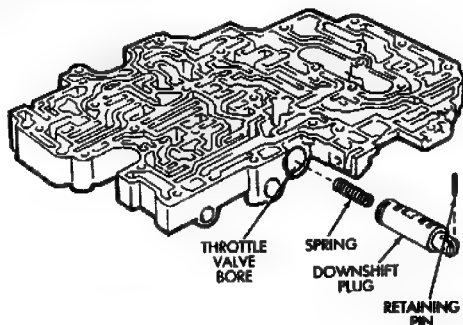

**Fig. 17 Install Throttle Valve Adjusting Rings - If Equipped**
- (12) On models with adjusting rings, turn upper body over and install adjusting rings (Fig. 17). Be sure to install same number of rings as were removed.